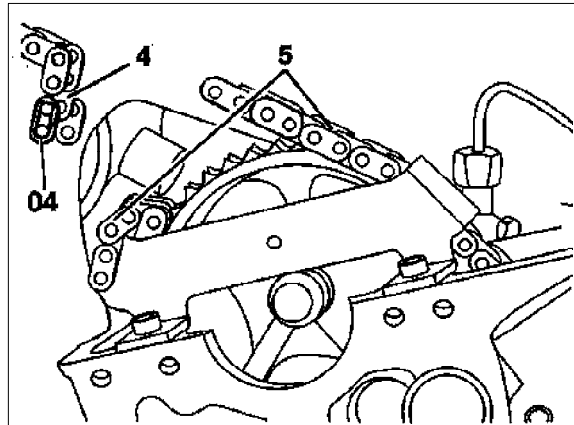

Figure 6
15. Disconnect old timing chain (4) from new timing chain (5) when the threading link (04) has reached the top of the camshaft sprocket (Figure 6). Remove and discard old timing chain.